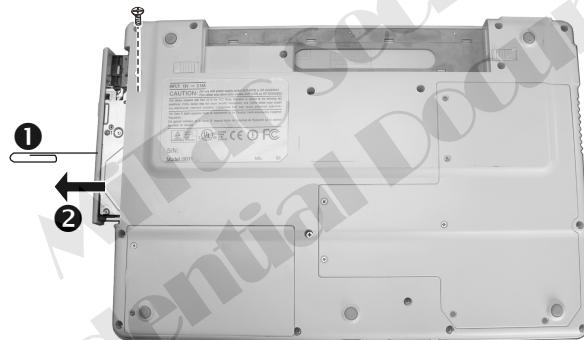

Figure 2-12 Remove the CD/DVD-ROM drive
2. Remove the one screw fastening the CD/DVD-ROM drive. (Figure 2-12)
3. Insert a small rod, such as a straightened paper clip, into CD/DVD-ROM drive's manual eject hole (①) and push firmly to release the tray. Then gently pull out the CD/DVD-ROM drive by holding the tray that pops out (②). (Figure 2-12)